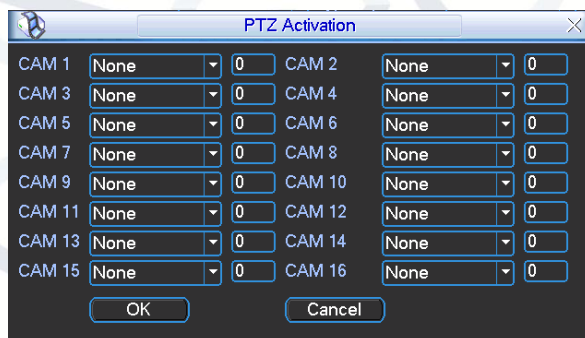
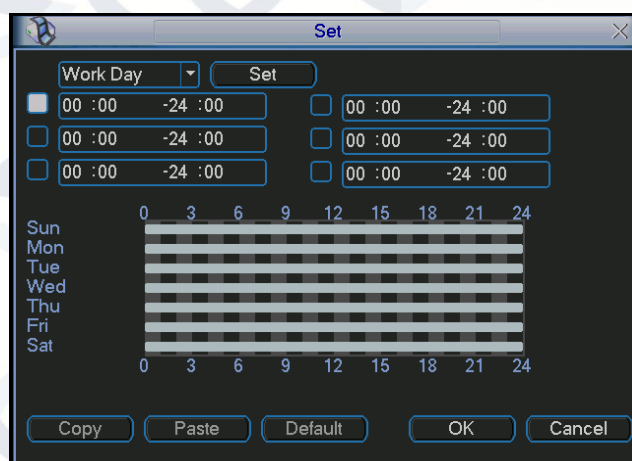

Figure 5-54
Figure 5-55
- ✧ In Figure 5-54, click 'Select' button, you will be shown an interface as in Figure 5-55. Here you can set the activation operation such as preset tour, pattern and enable.